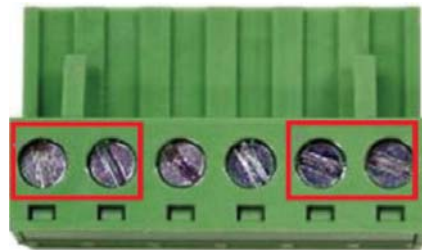

Figure 14. Power Terminal Block
2. Tighten the wire-clamp screws to prevent the wires from loosening, as shown in figure 14.